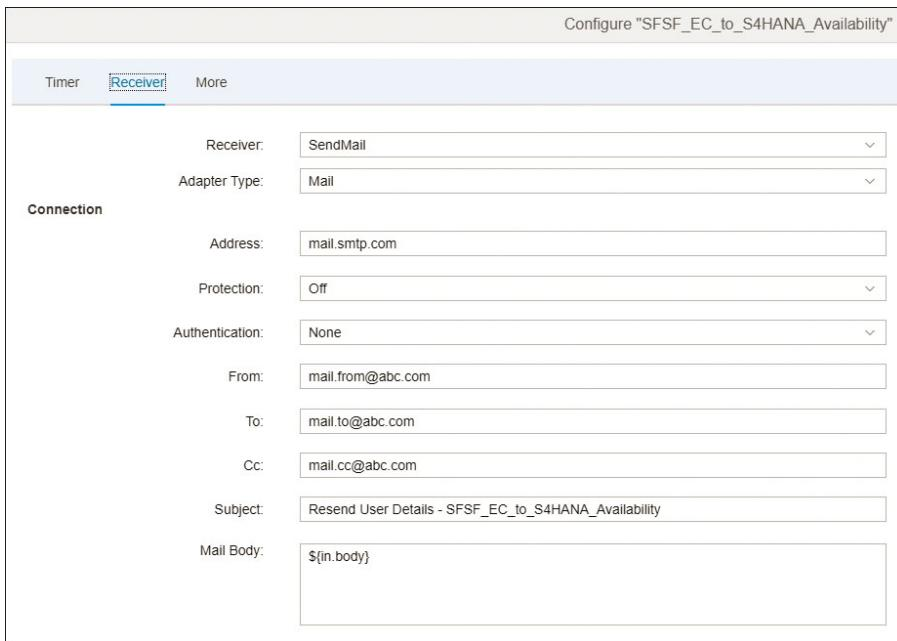

Figure 3.22 Configure the Receiver Connection Details of an Integration Flow
- If the integration flow does have configurable attributes, configure the details of each tab shown in Figure 3.22. Notice that in this screen, the **Time**, **Receiver**, and **More** tabs are displayed, but there are even more tabs available. A complete list of possible configuration tabs and their explanations are available in Table 3.1.
Receiver	Configure the connectivity details of the receiver adapter. See the example in Figure 3.22 .
5. After you've made the desired changes in the previous step, click on the **Save** button, as shown earlier in Figure 3.22.
6. Deploy the integration flow on the tenant by using the **Deploy** option (refer to Figure 3.22.)